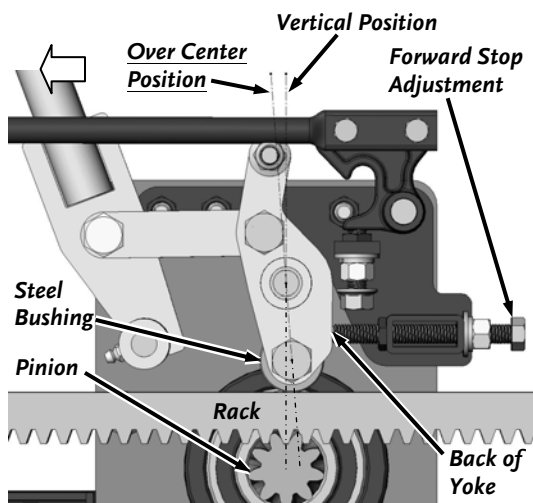

Figure 39
5. Lift the Safety Interlock Lever and push the Engagement Handle forward to position the Steel Bushing Yoke as close to vertical as you can and hold it there (**Figure 39**).